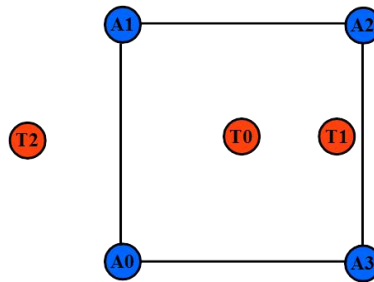

Fig. 26: Schematic of envelope surface positioning accuracy
- The location of the tag. For example, the accuracy within the envelope surface of the ANCHOR is about 10cm, and the accuracy outside the envelope surface decreases, and the farther away from the envelope surface, the lower the accuracy. As shown in Fig. 26, the accuracy of T0 is the highest, T1 is the second, and T2 is the worst.